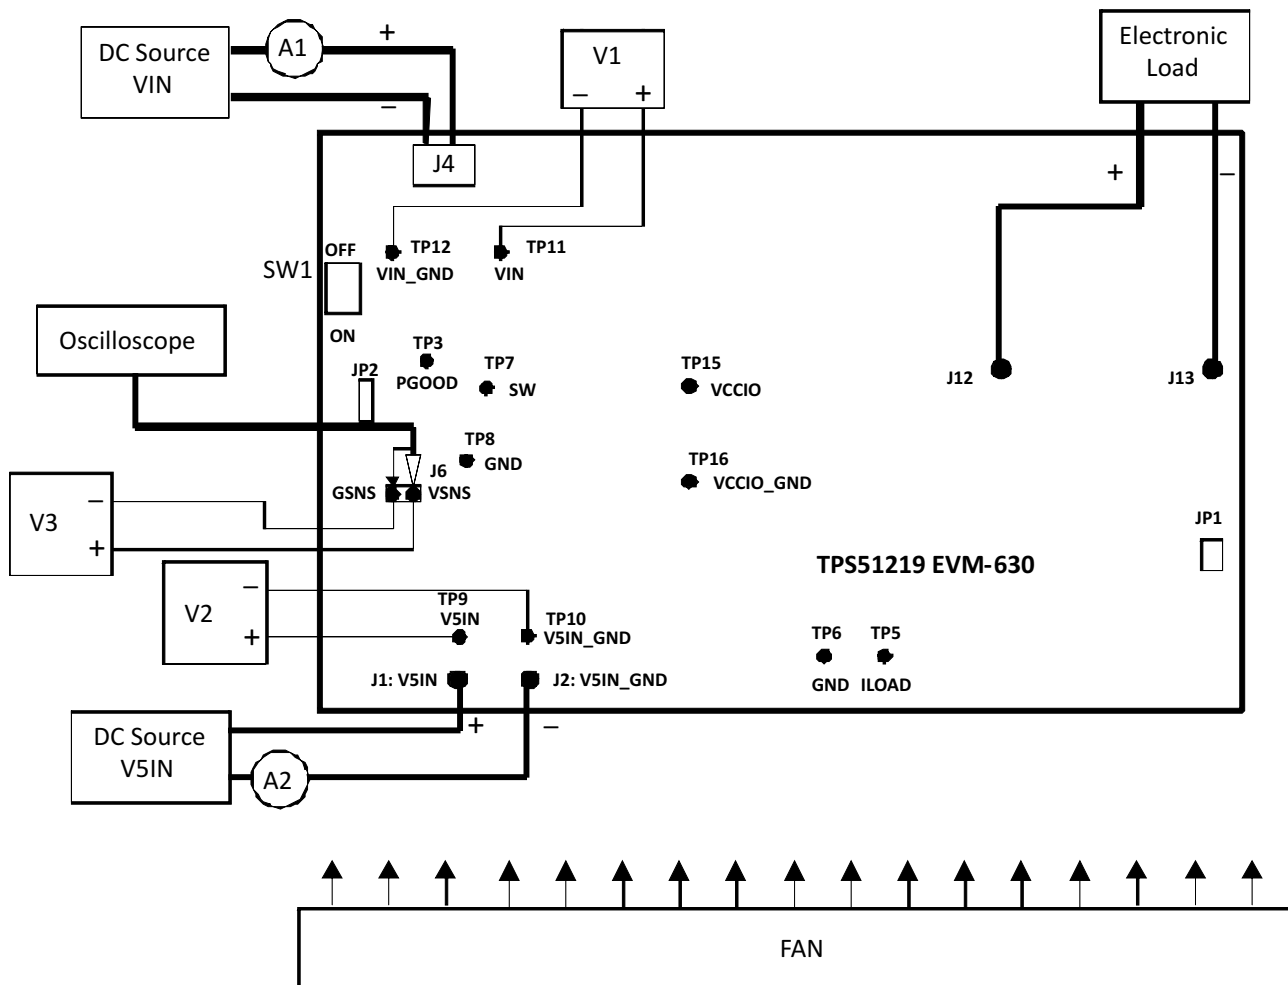

Figure 4. TPS51219EVM-630 Recommended Test Setup
Voltage Source VIN: The input voltage source VIN must be a 0-V to 20-V variable DC source capable of supplying 10 Adc. Connect VIN to J4 as shown in Figure 4.
Voltage Source V5IN: The input voltage source V5IN must be a 0-V to 5-V variable DC source capable of supplying 1 Adc. Connect V5IN to J1 as shown in Figure 4.
Figure 4 is the recommended test setup to evaluate the TPS51219EVM. Working at an ESD workstation, ensure that any wrist straps, bootstraps, or mats are connected referencing the user to earth ground before power is applied to the EVM.
1. Prior to connecting the DC source VIN, it is advisable to limit the source current from VIN to 10 A maximum. Ensure that VIN is initially set to 0 V and connected as shown in Figure 4.
2. Prior to connecting the DC source V5IN, it is advisable to limit the source current from V5IN to 1 A maximum. Ensure that V5IN is initially set to 0 V and connected as shown in Figure 4.
3. Connect a voltmeter V1 at TP11 (VIN) and TP12 (VIN_GND) to measure VIN voltage, V2 at TP9 (V5IN) and TP10 (V5IN_GND) to measure V5IN voltage as shown in Figure 4.
Place a fan as shown in Figure 4 and turn it on, ensuring that air is flowing across the EVM.